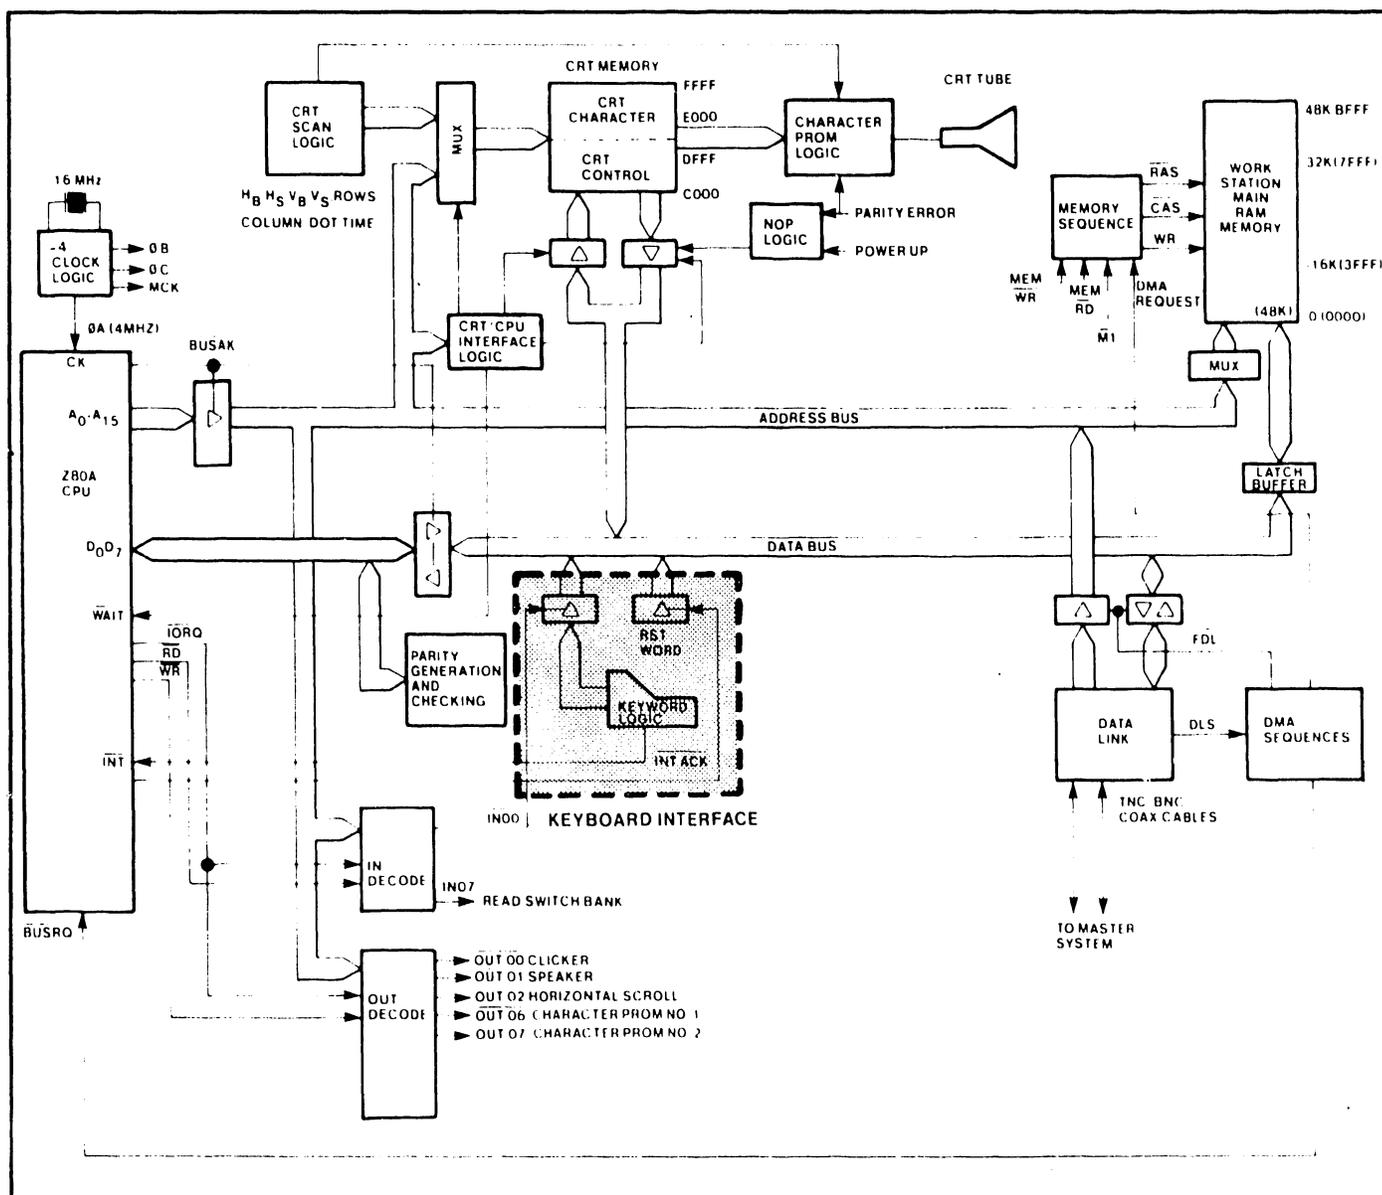

Figure 2-4. Keyboard Interface
2.3.1.3 Character Generation (Figure 2-4)
### 2.3.1.6 Keyboard Interface (Figure 2-4)